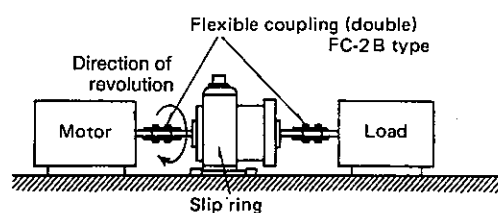

Fig.1 Using mounting legs
4.2 Install the transducer as illustrated in Fig. 1 to 3.